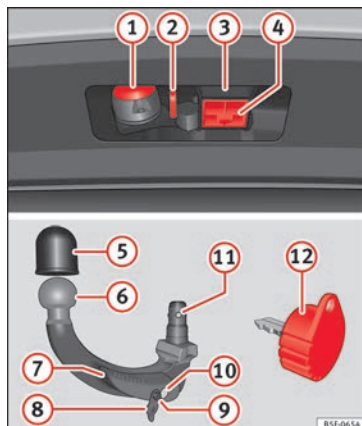

Fig. 178 Towing bracket device support / detachable ball joint / key.
Key to »» Fig. 178
- Remove the hook housing cap **(4)** » **Fig. 178** downwards.